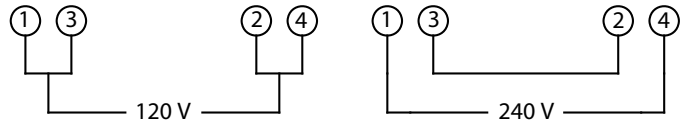

Figure 4 – Wiring Schematic for Motor
Refer to Figure 4.
- To operate drill press at 240 volts, rewire motor as shown in Figure 4 and replace line cord plug with a 240 volt, 20/30A, 3-prong plug. If motor label has a different wiring configuration, use the motor label diagram to rewire motor.